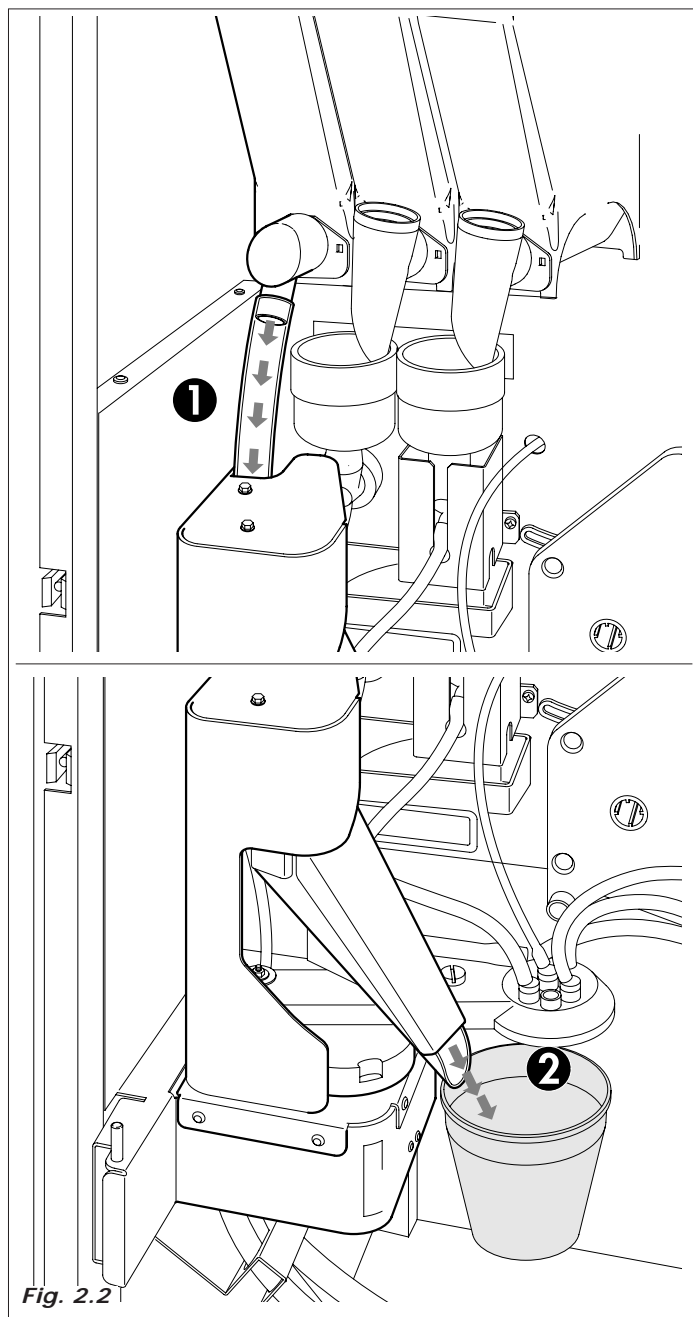

Fig. 2.2
- the geared motor activates the helicoidal screw conveyor of the sugar product container, dispensing the desired quantity into the product chutes (Fig.2.2)